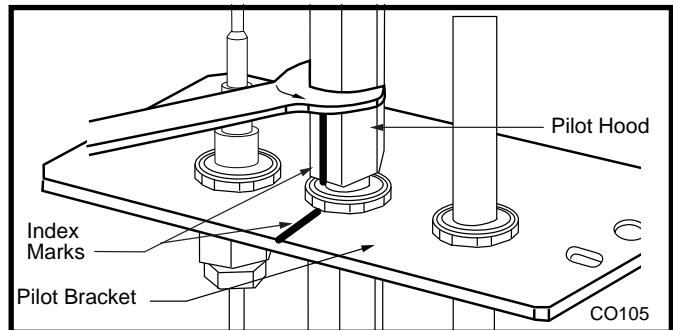

Fig. 73 Remove pilot hood. (Your pilot may have a different appearance.)
- Loosen pilot hood turning counterclockwise using a 7/16" wrench. (Fig. 73)